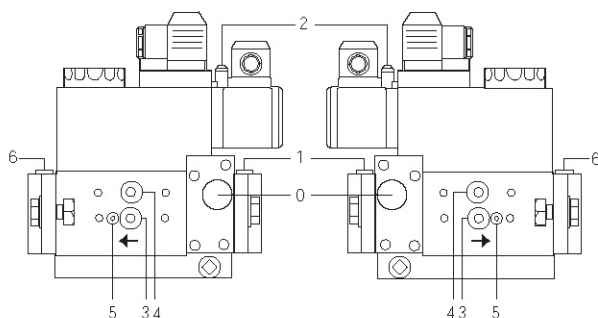
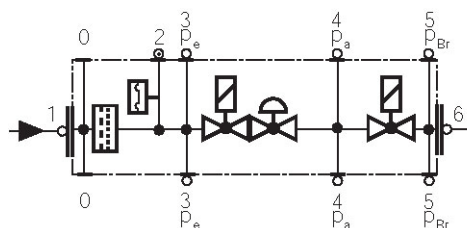

Fig. 22
Fig. 23
- Change the filter if the pressure difference between pressure connection 1 and 3 (Fig. 22-Fig. 23) is  $\Delta p > 10$  mbar.
- Change the filter if the pressure difference between pressure connection 1 and 3 (Fig. 22-Fig. 23) is twice as high compared to the last check.